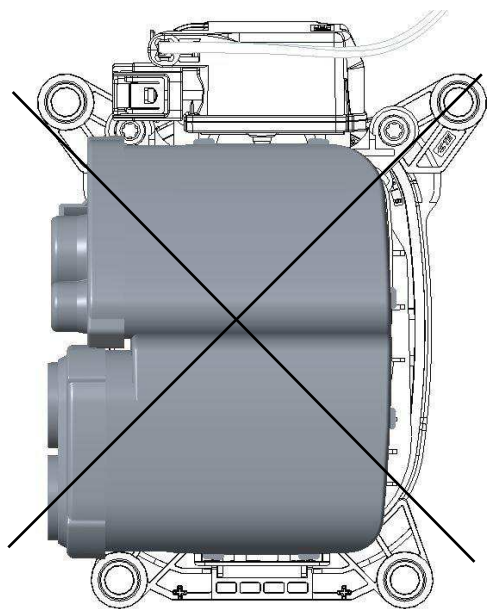

Figure 11a
- Cable direction LEFT figure 11a